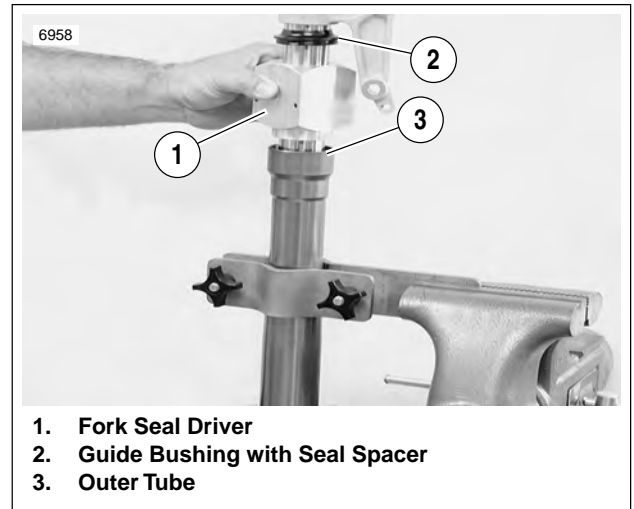

Figure 2-55. Fork Seal Driver
7. Move and tape or tie the dust seal (13) and stopper ring (12) out of the way.
8. Using FORK SEAL DRIVER (Part No. B-43721), drive the guide bushing (9) with the seal spacer (10) and oil seal (11) into position in the outer tube (4). See Figure 2-55.